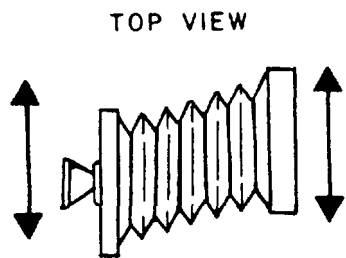

Figure 4-25.—Sliding front and rear of view camera.
3. Slide or shift. Both the front and rear standard shift or slide from side to side (fig. 4-25).